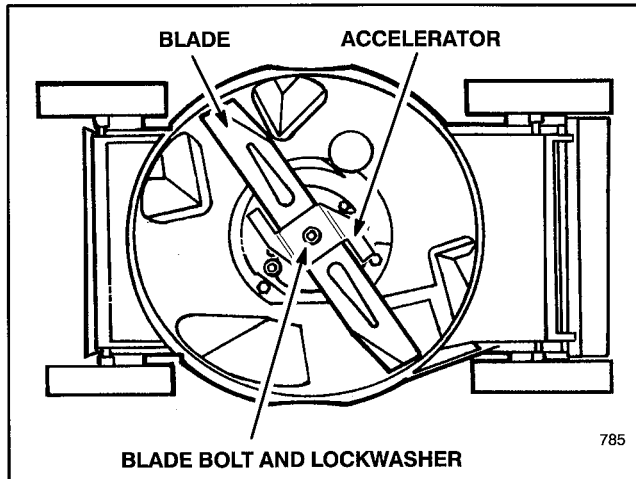

Figure 15
3. Tip mower on its right side (Fig. 15). Avoid rotating blade as starting problems may result.
**5. REMOVING BLADE**—Grasp end of blade using a rag or thickly padded glove. Remove blade bolt, lockwasher, accelerator, and blade (Fig. 15).